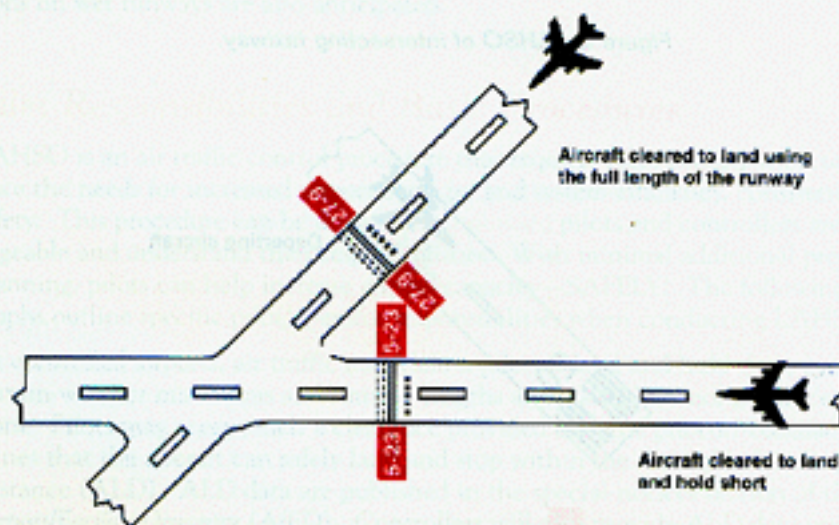

Figure 1—LAHSO of intersecting taxiway.
**FIGURES 1, 2, and 3.** — (1) Land and hold short of an intersecting runway; (2) Land and hold short of an intersecting taxiway; and (3) Land and hold short of a designated point on a runway other than an intersecting runway or taxiway. (In this latter case, for example, holding short at a designated point may be required to avoid conflicts with the runway safety area/flight path of a nearby runway.) Each figure shows the approximate location of LAHSO markings, signage, and in-pavement lighting when installed. For further information on LAHSO markings, signage, and lighting, see the Airman's Information Manual, Chapter 2, "Aeronautical Lighting and Other Airport Visual Aids."
- Situational awareness also includes a thorough understanding of the airport markings, signage, and lighting associated with LAHSO. These visual aids consist of a three-part system of **yellow hold-short markings, red and white signage** and, in certain cases, **in-pavement lighting**. Visual aids assist the pilot in determining where to hold short. Figures 1–3 depict how these markings, signage, and lighting combinations will appear once installed. Pilots are cautioned that not all airports conducting LAHSO have installed any or all of the above markings, signage, or lighting.